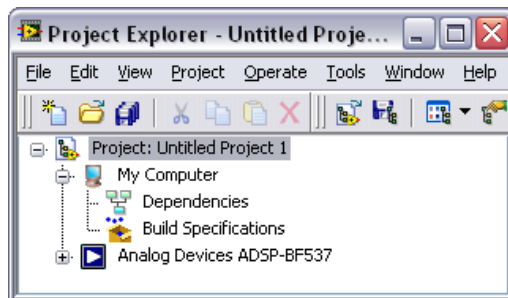

Figure 5. Adding the ADSP-BF537 to the Project Explorer Window
- Click the **OK** button to add the target to the project. The target appears in the **Project Explorer** window as shown in Figure 5.